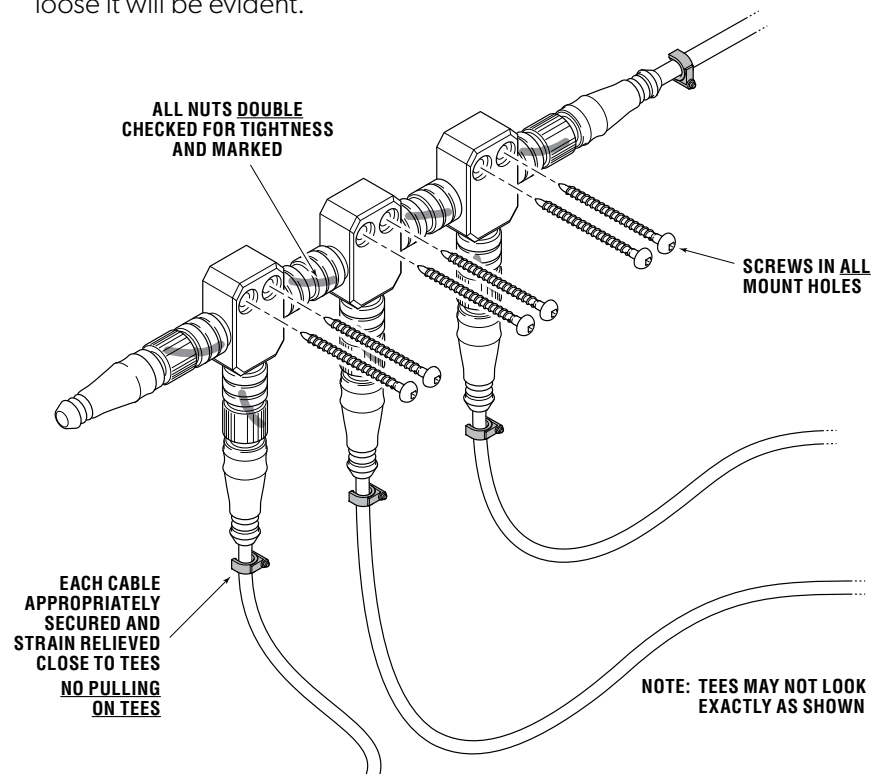

Figure 5-23.
1. Install the network tees as shown in figure 5-23.